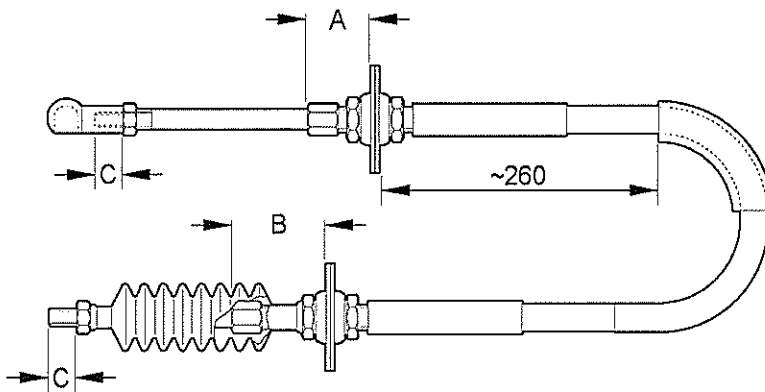

Fig 9 Transfer gearbox remote control cable
15.1 Carry out basic adjustment of remote control cable (see Fig 9).
15.2 Screw on gear selector rod with lock nut. Ensure measurement 'C' is correct (see Fig 9).
- 15.9 Screw on ball joint with lock nut. Observe measurement 'C' (see Fig 9). Grease ball joint inside moderately and press onto gear lever. Attach lock clip. Ensure ball joint is in centre position when tightening lock nut.
Adjustment is made by movement of two lock nuts at rear ball and socket joint (adjacent to transfer gearbox) (see Fig 9).